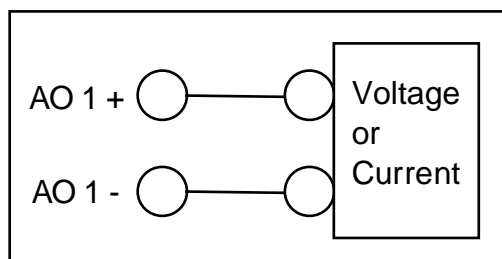
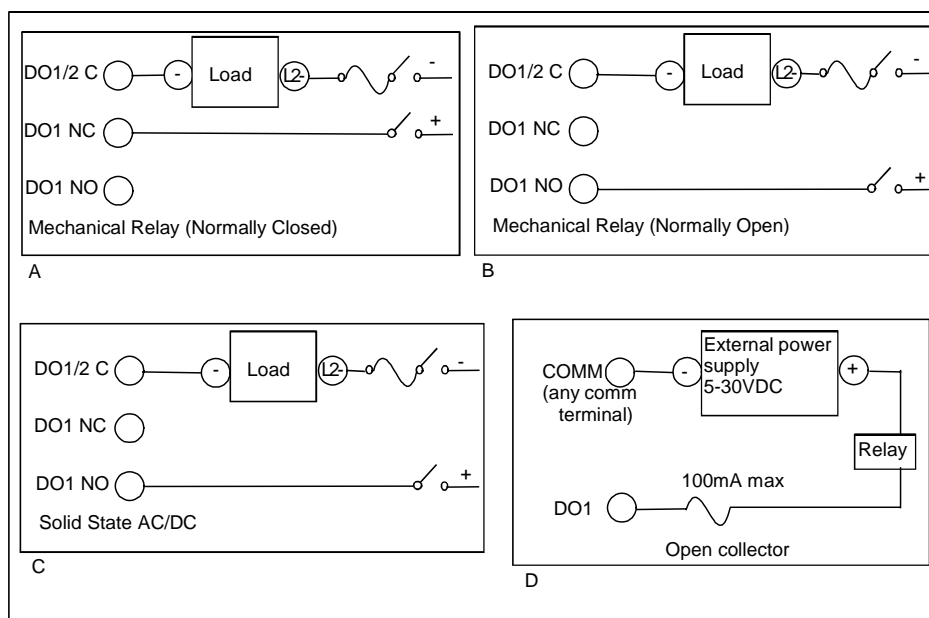

Figure 2-7 CAT or VAT Wiring Connection
Figure 2-10 Discrete Output Connections
Analog outputs may be Current Output (CAT), Voltage Output (VAT), Time Proportion Output (DAT) or Position Proportional Type (PP). For CAT or VAT wiring, see Figure 2-7. For DAT wiring, use general purpose output relays or open collector outputs. For Position Proportional wiring, see Figure 2-10. See Discrete Output Connections.
Make connections according to Figure 2-10.
Note: Figure 2-10 shows example wiring for DO1 and should be used for any Discrete Output.